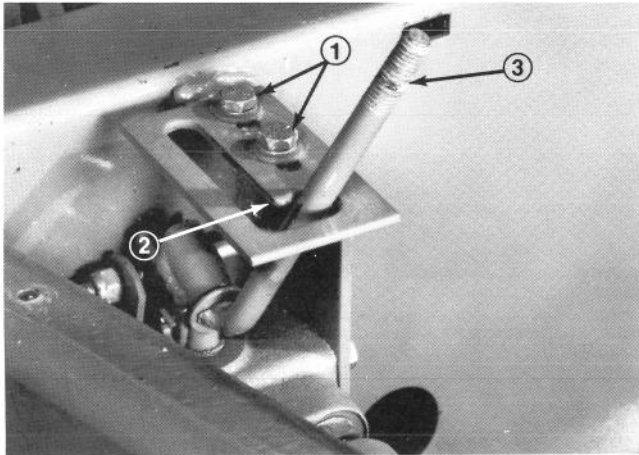

Figure 62
- Loosen two capscrews on top of the lift lever latch (Fig. 62). Place lever on rounded tip of latch (Fig. 62), and slide latch w/lever forward until stopping resistance is felt. Then tighten capscrews to lock the latch in place. Check for free operation of the lift lever by moving lever from RAISE or TRANSPORT to FLOAT position. Lift lever should just clear rounded position of latch as lever is moved into FLOAT position.